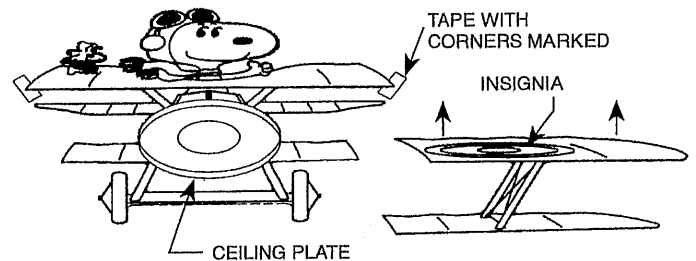

FIGURE 6
The decal comes complete with pressure sensitive tape and special clips to hold it to the ceiling. The decal is in four parts: the Landing Gear, Canopy/Tail and two Wings. Be sure the insignia emblem is mounted on top for the right wing and on bottom for the left wing. See Figure 6. The ceiling should be clean and dry for proper adhesion of the tape strips.
**A.** Slide the Landing Gear decal and the Canopy/Tail decal behind the ceiling plate. Align the decals with the ceiling plate and with one wall for squareness. Tighten the screws on the ceiling plate just enough to hold the decals in place. Put two small pieces of tape under the corners of the Landing Gear decal as shown in Figure 6. Mark the tape to indicate the corners of the decal. **This is extremely important as it will give you the exact location for the decal.** Mark the positions of the wheels and the two wing joint lines as shown in Figure 5. Loosen the ceiling plate screws and remove the decals.